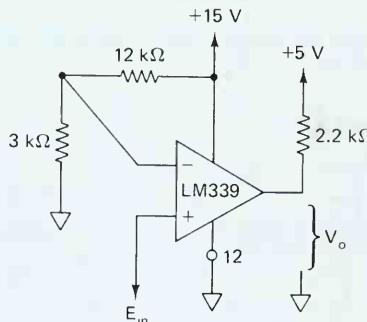

FIGURE P2-16
- 2-16.** In Fig. P2-16, E_{in} is a triangle wave. The amplitude is -5 to $+5$ V and the frequency is 100 Hz. Sketch accurately the graphs of (a) V_o vs. E_{in} ; (b) V_o vs. t .